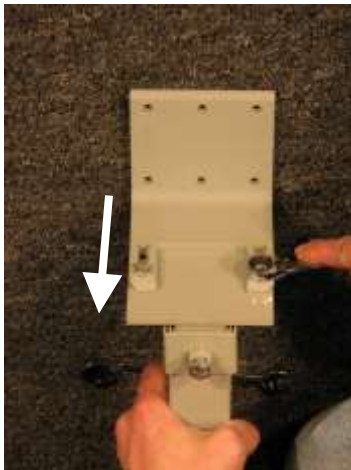

Figure 1
1. The mounting distance from the wall can be altered by sliding the Wall Angle on the mounting pad as shown in Figure 1.